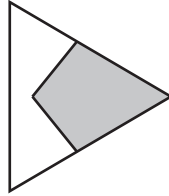

Fig. 2.1
- (a) (i)** Draw a large plan diagram of the region of the stem on **K1** indicated by the shaded region in Fig. 2.1. Use a sharp pencil.